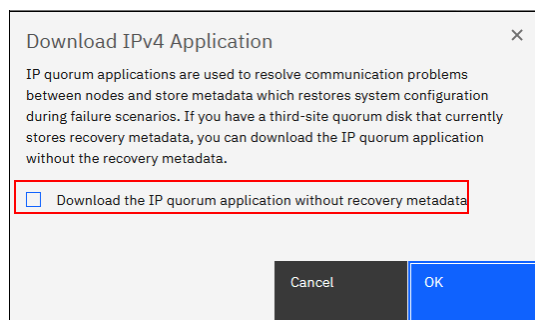

Figure 4-106 IP quorum application metadata
2. When you select **Download IPv4 Application**, you are prompted whether you want to download the IP quorum application with or without recovery metadata, as shown in Figure 4-106. IP quorum applications are used to resolve communication problems between nodes and store metadata, which restores system configuration during failure scenarios. If you have a third-site quorum disk that stores recovery metadata, you can download the IP quorum application without the recovery metadata.